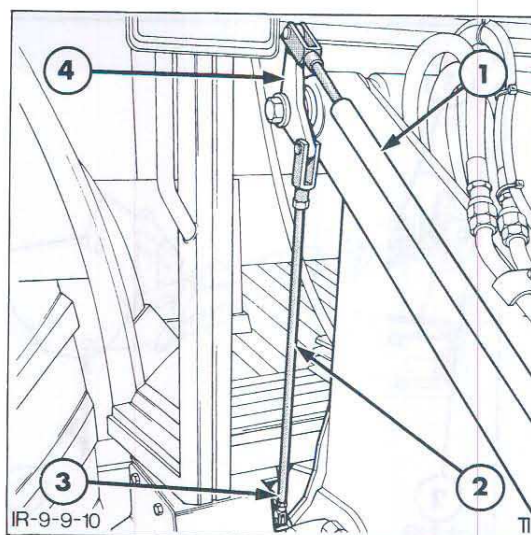

Figure 18
2. Disconnect the vertical linkage rod at the lower bellcrank and loosen the locknuts. Refer to Figure 18.